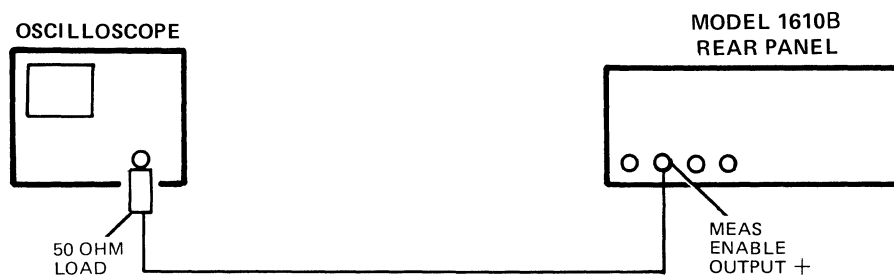

Figure 4-15. Measurement Enable Output Test Setup
- f. Connect oscilloscope to 1610B MEAS ENABLE OUTPUT (+) as shown in figure 4-15.